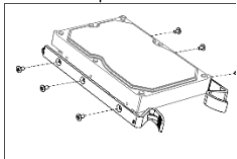

Figure 2-7 Fix Mounting Ear
Step 1 Fix mounting ears to HDD with screws. Refer to Figure 2-7.